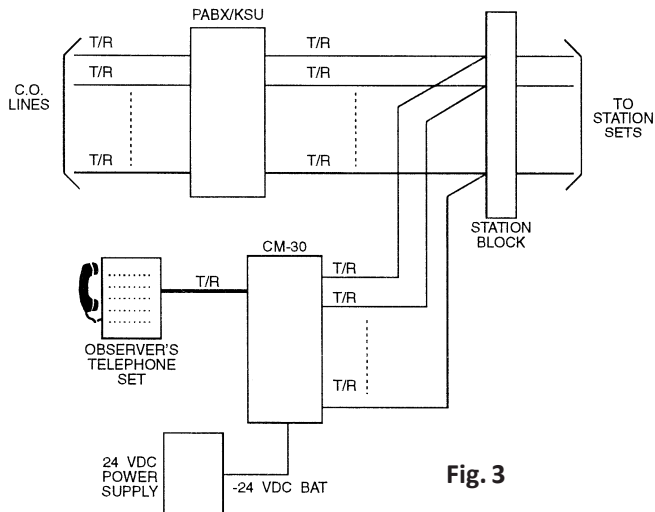

Fig. 3
- 2.2 **30 Line Capacity** through a key system telephone or a single-line telephone designated as the observer's telephone. When a key system telephone is used, one pick-up key is dedicated for service observing. When a single-line telephone is used, the station is dedicated for service observing purposes only. See figure 3. To expand the CM-30 in increments of 30 lines, add a Dees CMX-300 (max. 90 lines).